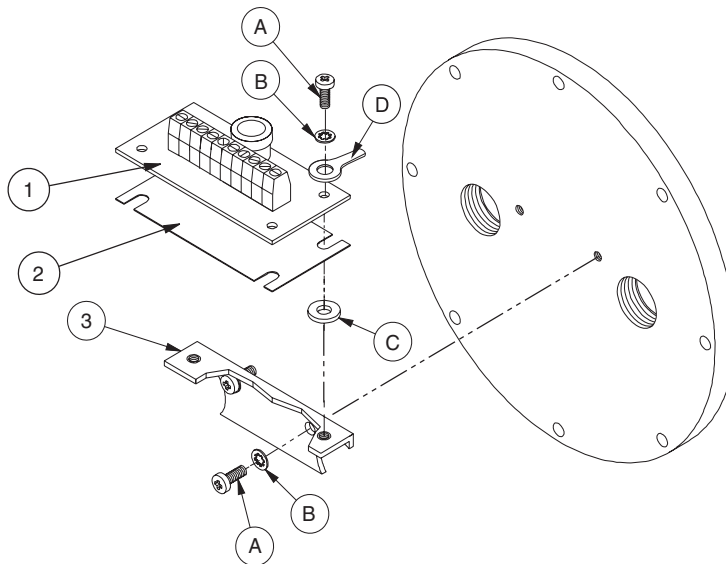

Figure 1. HKX4 PC Board Installation
5. Attach the PC board bracket to the enclosure's rear plate using the hardware provided (refer to Figure 1 or 2).
7. Attach the PC board and blower bracket to the enclosure's rear cover the hardware provided (refer to Figures 1 and 2).